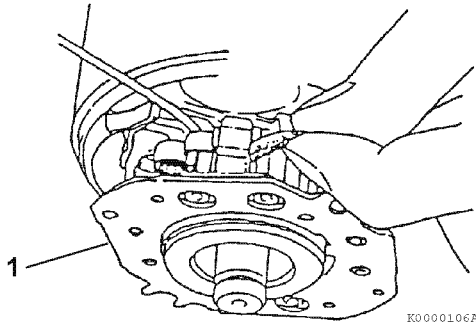

Figure 11-5
4. Pull the brush springs up using a brush spring puller. On the negative (-) side, bring the brush spring into contact with the side of the brush for lifting from the commutator surface. On the positive (+) side, remove the brush from the brush holder assembly (1, **Figure 11-5**).